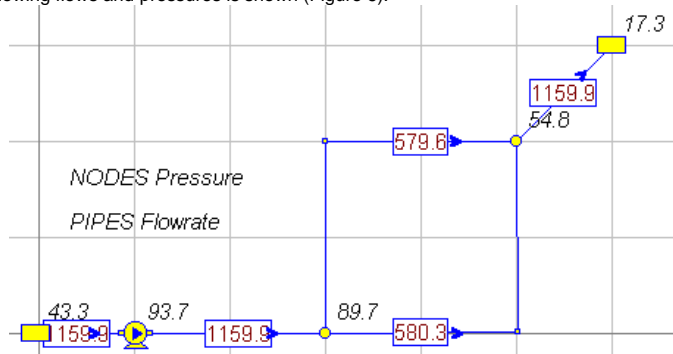

Figure 6 Case 3 - Added Pump
We want to add a 40 HP (useful horsepower) pump in the line leading from Reservoir A about 100 feet from the reservoir. To do this Click on (LC) the pipe at the desired location and click on Insrt (Pipe Information Window - button) select Intermediate Node . Now select the intermediate node (LC on node) and change node type to Pump. Select the pump and select Constant Pwr (power) for Pump Type and input 40 (HP) for the Power and 210 (ft.) for the elevation (Node Information Window). Now analyze the system and note the effect of this pump which provides around 136 feet of head and nearly doubles the flow. A printout showing flows and pressures is shown (Figure 6).